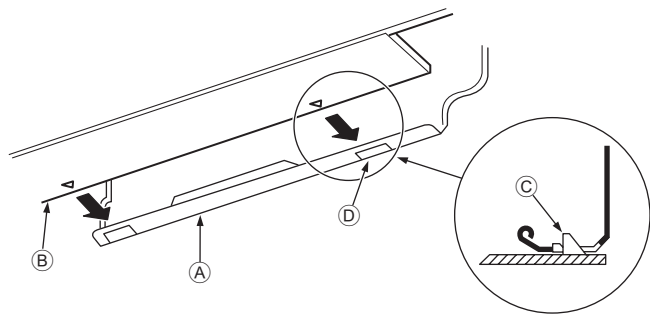

Fig. 3-15
3. While inserting the refrigerant piping and drain hose into the wall penetration hole (penetration sleeve), hang the top of the indoor unit to the mount board ①.
5. Fasten by pushing the bottom part of the indoor unit onto the mount board ①. (Fig. 3-15)
- * Check that the knobs on the bottom of the indoor unit are securely hooked into the mount board ①.
① Mount board
② Indoor unit
③ Hook
④ Square hole